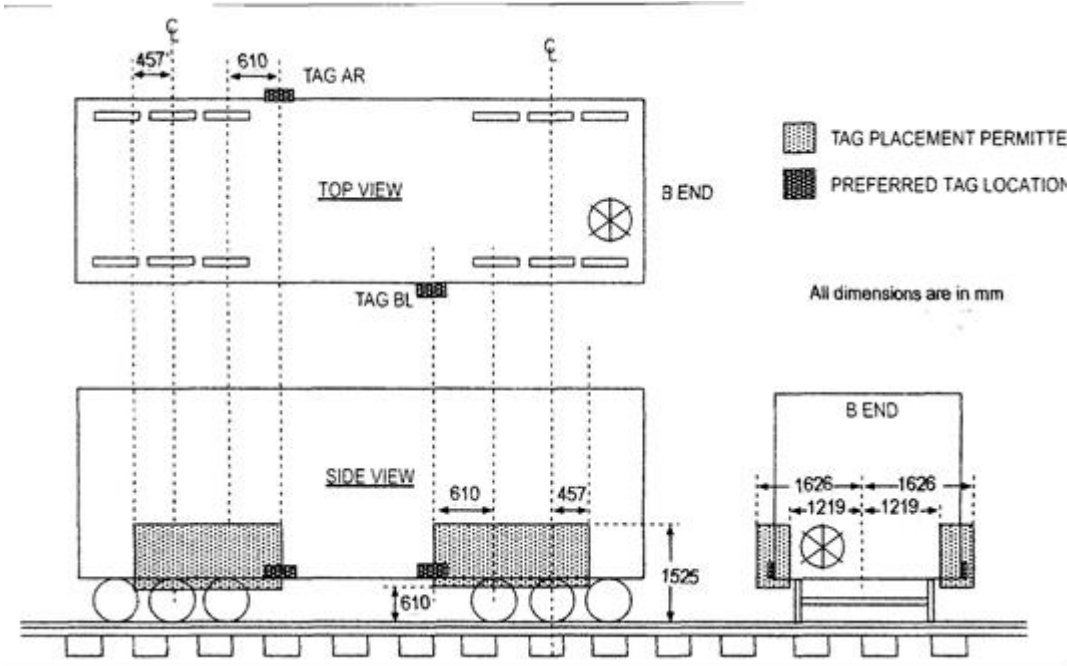

Figure 3 - Location of AEI tags – Six axle vehicles
- Figure 3 Six axle freight and passenger vehicles (AAR S-918 Exhibit A)